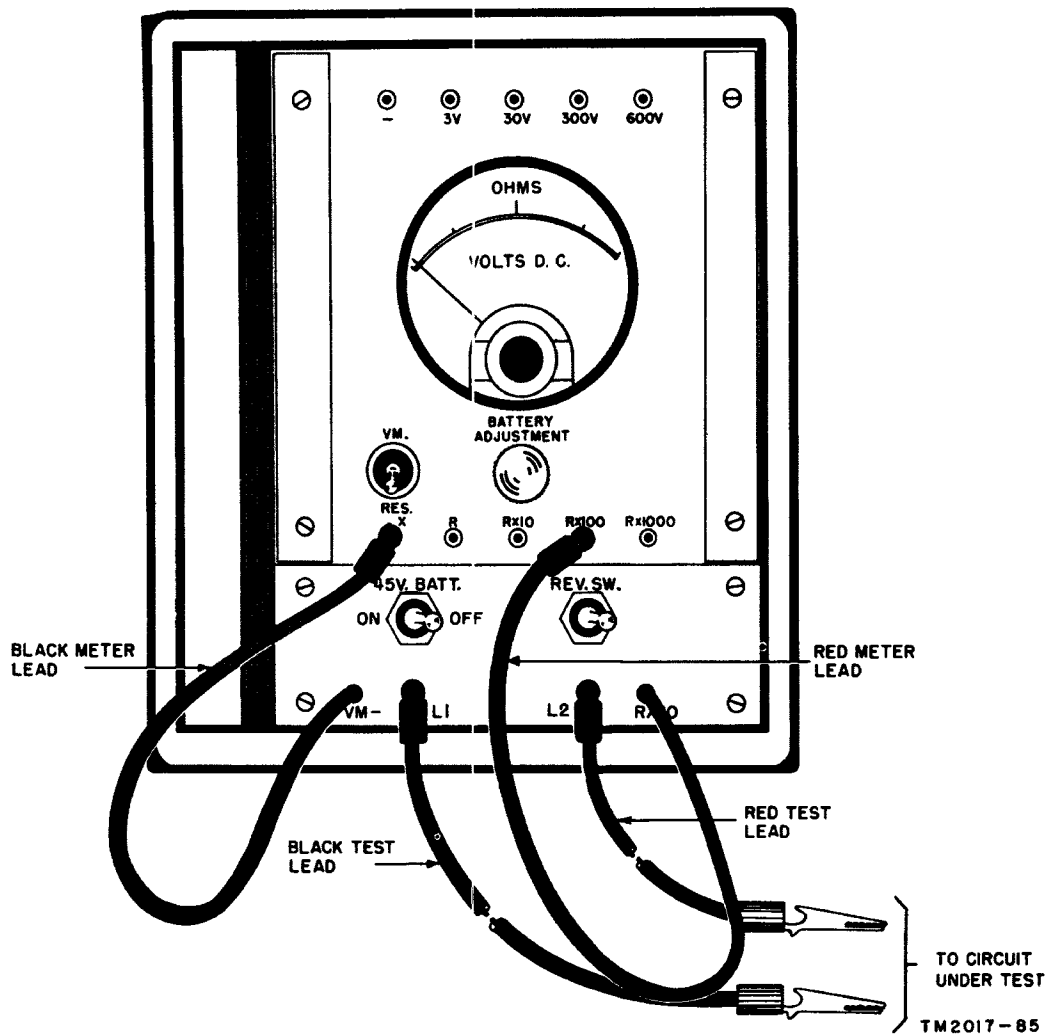

Figure 17. Test Set TS-26(\*)/TSM, arranged for measurements between 0 and 100,000 ohms.
- (c) RX100 jack for measurements between 0 and 100,000 ohms (fig. 17).
- (3) If the 0- to 100,000-ohm range is being used (fig. 17), multiply the reading on the OHMS scale by 100. In this case, the resistance is 100 x 20 or 2,000 ohms.